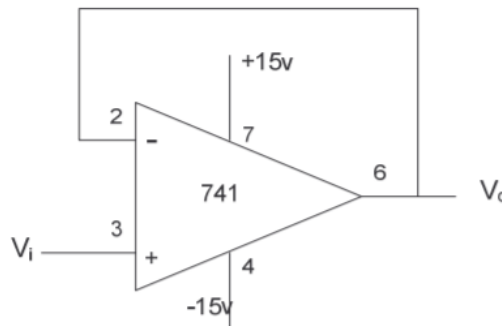

Figure 3-12 Voltage Follower
6. Construct the amplifier of Figure 3-12.